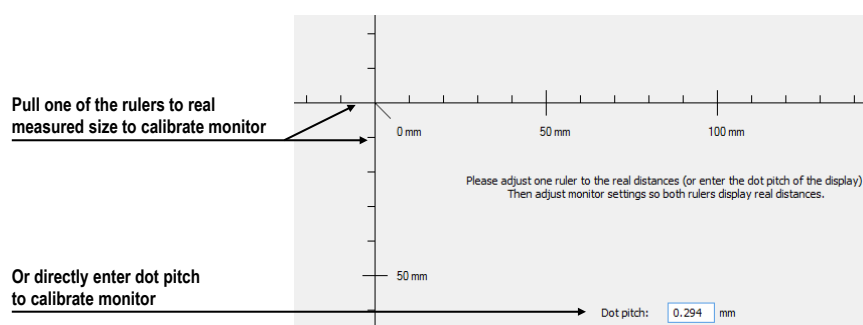

Figure 77 – Monitor calibration
2. The **Full screen calibration** dialog is displayed on the selected monitor (see Figure 77).